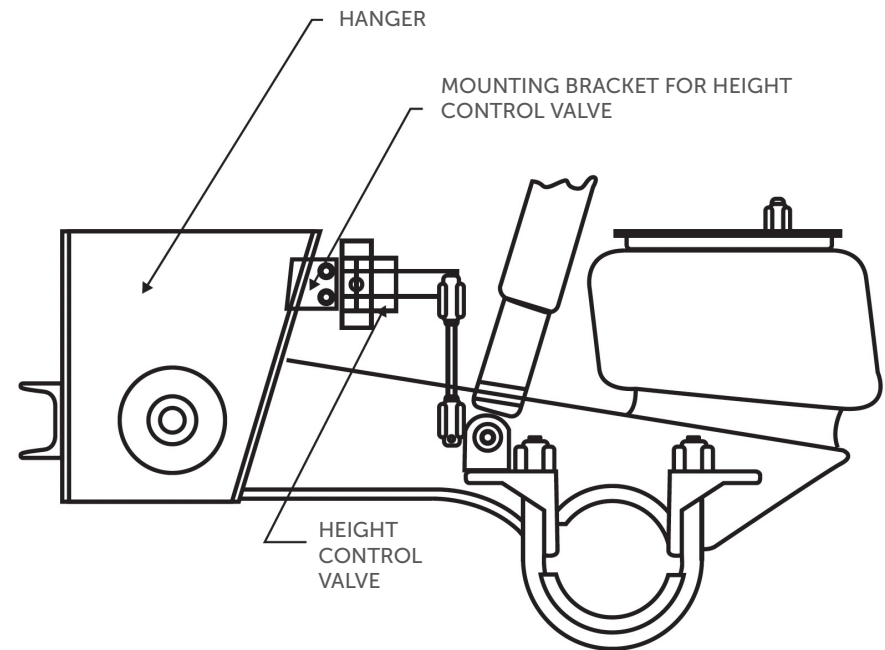

Figure 16
2. Attach the control valve to the control valve holder on the hanger. *(See Figure 16)*.